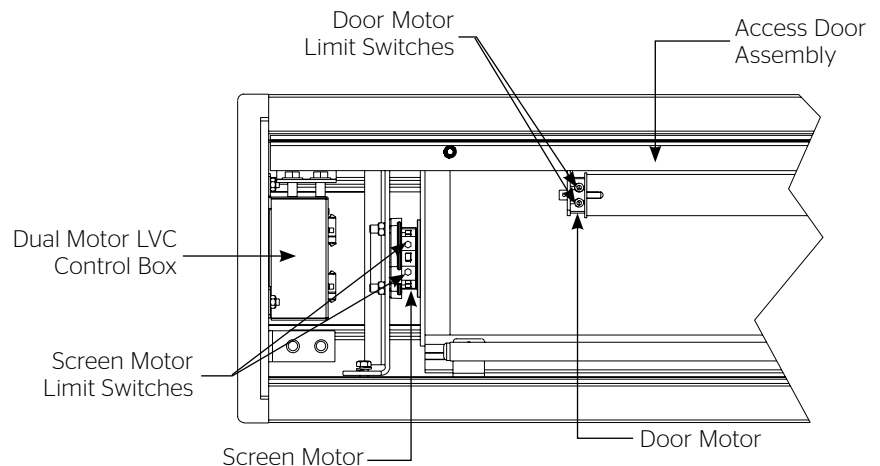

Figure 3
9. Carefully remove tape strips securing picture surface around roller. Slat should move freely (Fig. 3). (Only if the roller assembly is pre installed).
2. When the screen stops, turn the white **"down"** limit knob (Fig. 3) one-quarter turn counterclockwise. Test by raising picture surface approximately two feet, then lower again. Repeat until desired picture surface position is attained.